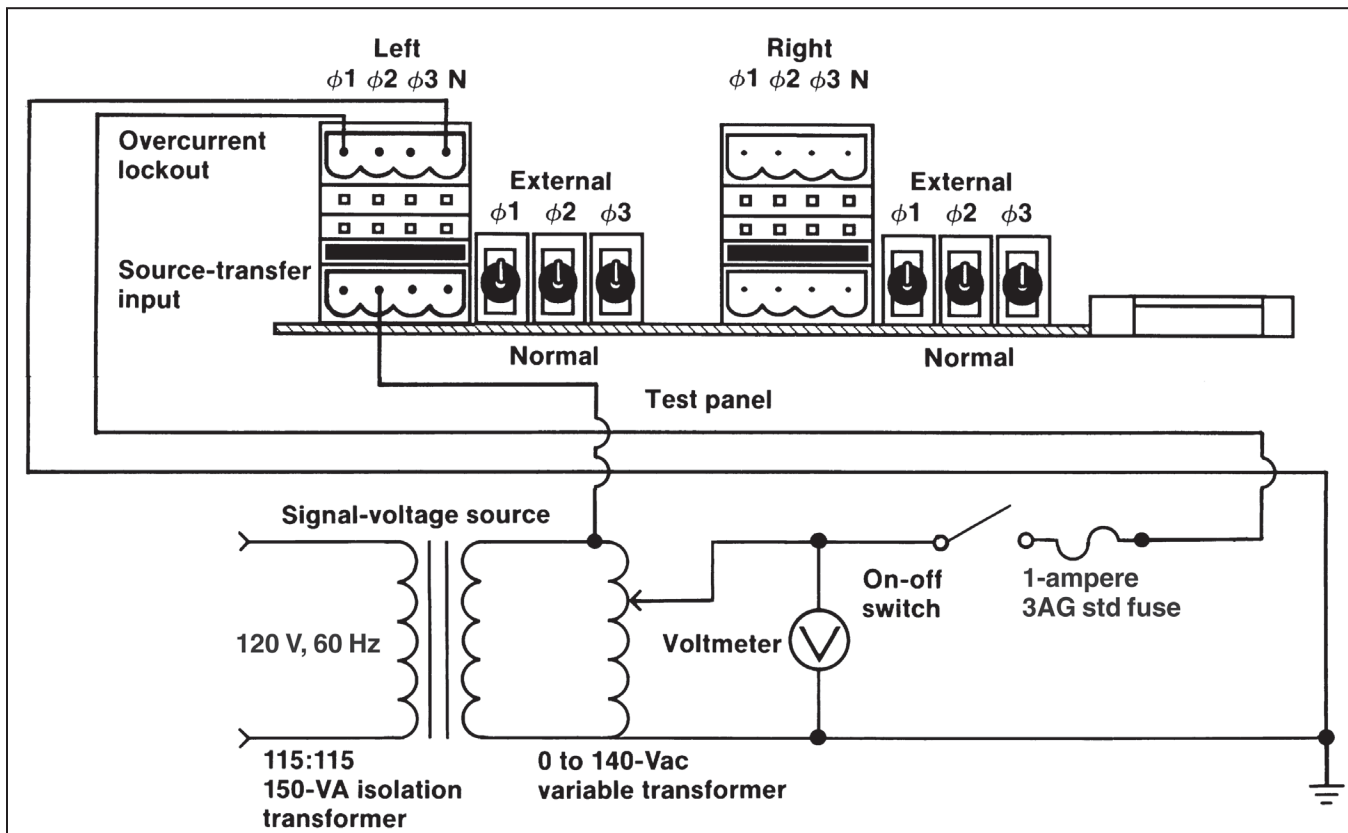

Figure 10. An overcurrent-lockout test-circuit connection diagram for Vista switchgear applications.
STEP 26. Make up the test circuit connections to Phase 1 and neutral on the left overcurrent-lockout connector and to Phase 2 on the left source-transfer input connector as shown in Figure 10 on page 24.